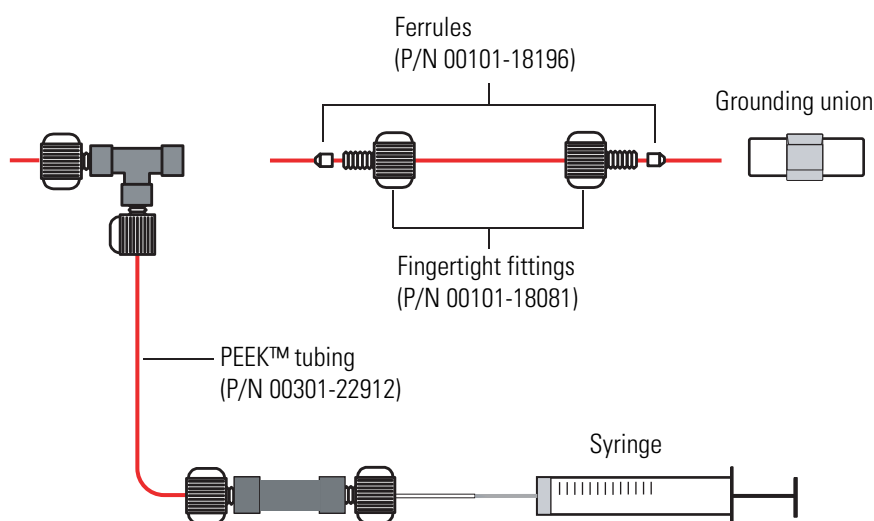
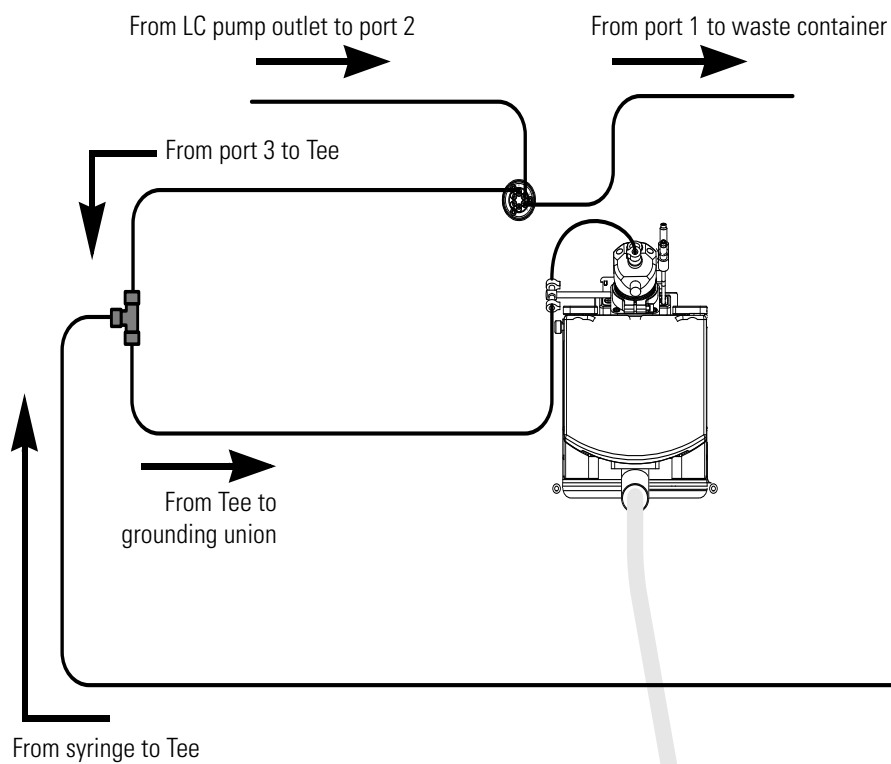

Figure 5-14. Connecting the union Tee to the grounding union used for the ESI probe
Figure 5-15. Plumbing diagram showing ESI/MS sample introduction with high-flow infusion
- For the ESI probe, use a fingertight fitting and a ferrule to connect the other end of the tubing to the grounding union that is held by the grounding bar of the API source. See Figure 5-14 and Figure 5-15.